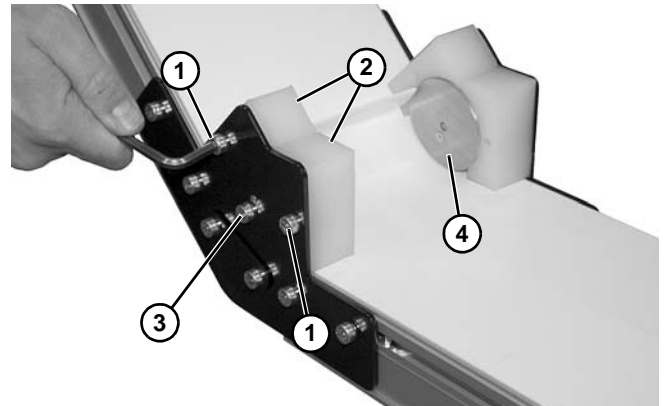

Figure 122
- If equipped with a lower knuckle, remove screws (**Figure 122, item 1**) and remove guards (**Figure 122, item 2**) on both sides of knuckle.
- Remove screws (**Figure 122, item 3**) and remove roller bearing assembly (**Figure 122, item 4**) on both sides of knuckle.